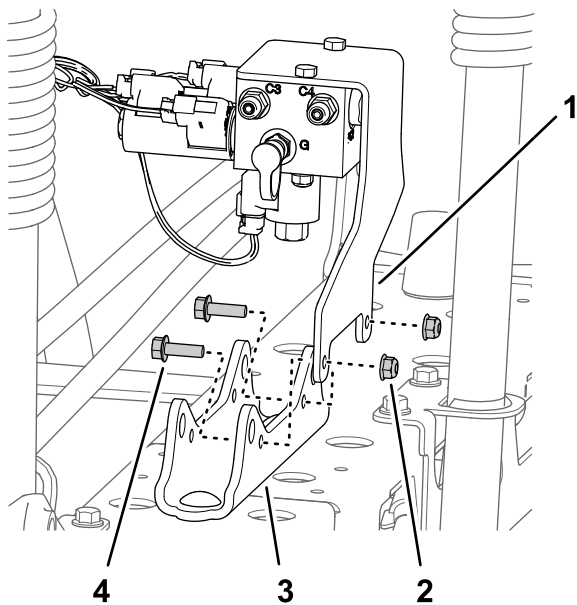

Figure 47
- **For machines without the optional ultra sonic boom leveling kit:** remove the 2 flange locknuts (5/16 inch) and 2 flange-head bolts (5/16 x 1 inch) that secure the support bracket for the section-lift manifold to the cylinder mount, and separate the manifold and bracket from the cylinder mount (Figure 47).